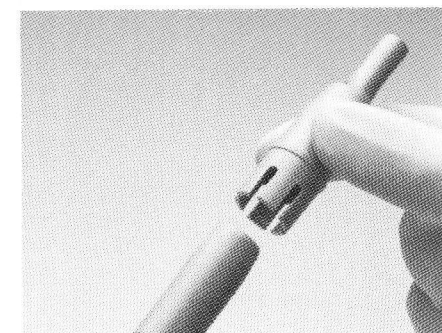

Figure 21
1. Slip bur guard over the distal tip of the 100K II Drill and twist. See Figure 21.